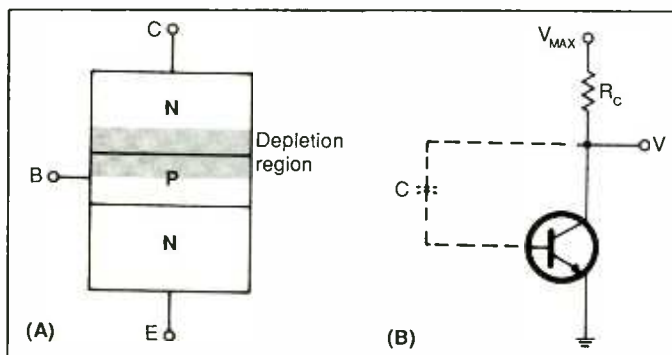

Fig. 4. Physical (A) and schematic (B) capacitance speed-robbing effects of increased junction area.
In this formula, the terms are determined by the same factors that apply in the charging formula, except that R is now set by the phototransistor's base input resistance. Base input resistance for the Fig. 4(B) circuit is the value of the collector resistor multiplied by the transistor's current gain (typically about 100).